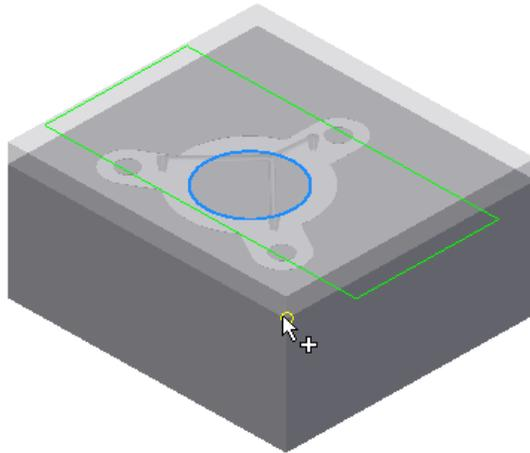
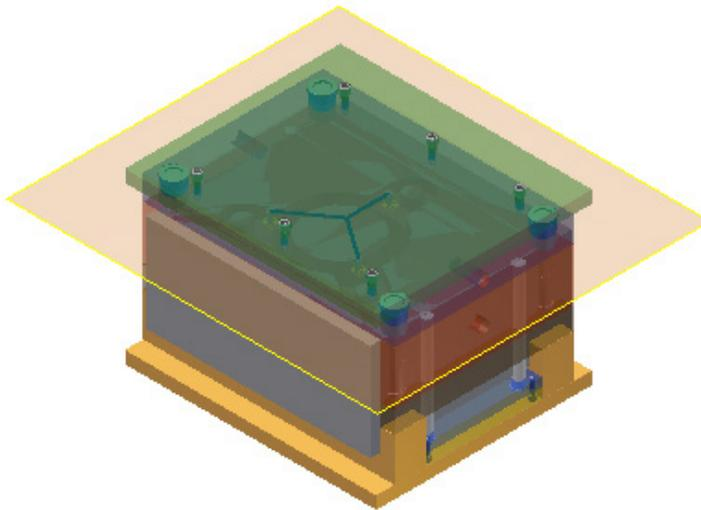

Figure 19-64 The point to be selected on the workpiece
Figure 19-65 The mold base created
3. Click at the location as, shown in Figure 19-64, and then choose the **OK** button from the dialog box; the mold base is created, refer to Figure 19-65.